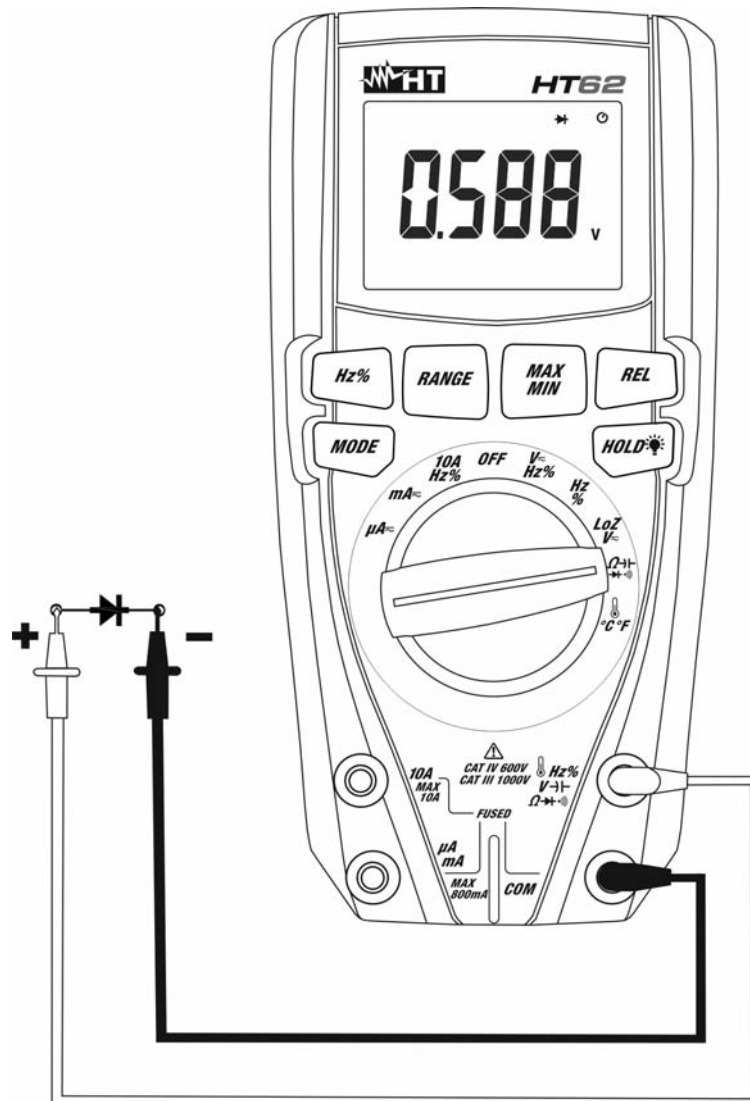

Fig. 7: Use of the instrument for diode test
4. Position the leads at the ends of the diode to be tested (see Fig. 7), respecting the indicated polarity. The value of directly polarized threshold voltage is shown on the display.
6. If the display shows the message "**O.L**", the terminals of the diode are reversed with respect to the indication given in Fig. 7 or the P-N junction of the diode is damaged.